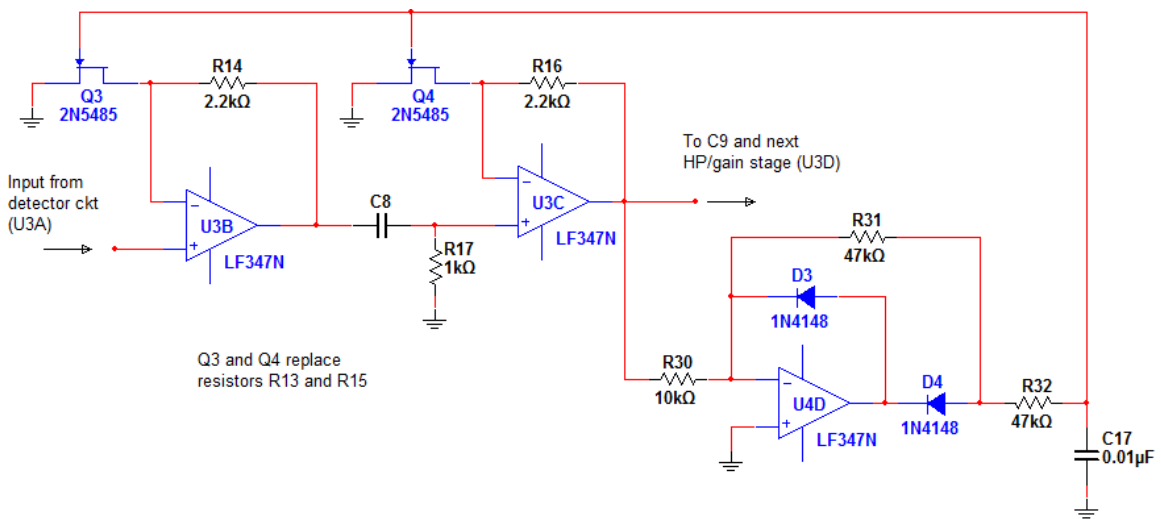

Figure 5-5 – Modification of receiver circuit to implement an AGC loop.
To make an AGC circuit we need two things: a voltage-controlled gain stage, and a circuit that senses the amplitude of the incoming signal. A popular way to implement a voltage-controlled gain stage is to use a FET biased in the ohmic region. In this region the FET behaves like a variable resistor, where the resistance value is set by the gate voltage. Figure 5-5 shows how we could modify the first two gain stages in our receiver to create a voltage-controlled gain, replacing resistors R13 and R15 by FETs.
In the AGC circuit of Figure 5-5, note that values for resistors R14 and R16 have been suggested. The resistance of the 2N5485 can be varied from about 150Ω at $V_{gs} = 0$ to $>2k\Omega$ at $V_{gs} = -4$ so with the specified values of R14 and R16 we can expect the gain of the AGC system to vary between <4 on the low end and to >250 on the high end. The actual gain values will depend on the particular device characteristics (I_{dss} and V_{po}). We can also influence the operation by varying the resistor R31, which controls how much DC control voltage we get for a given input signal amplitude. This allows us to optimize the operation for a particular range of transmitter-receiver distances:
- Optional, for Extra Credit: modify your receiver circuit to include a AGC loop as shown in Figure 5-5. Test the system over a range of transmitter-receiver distances; you will probably want to monitor the output of the final gain stage (U3D) in your receiver as you vary the distance, in order to help identify the optimal values for R14, R16, and R31.